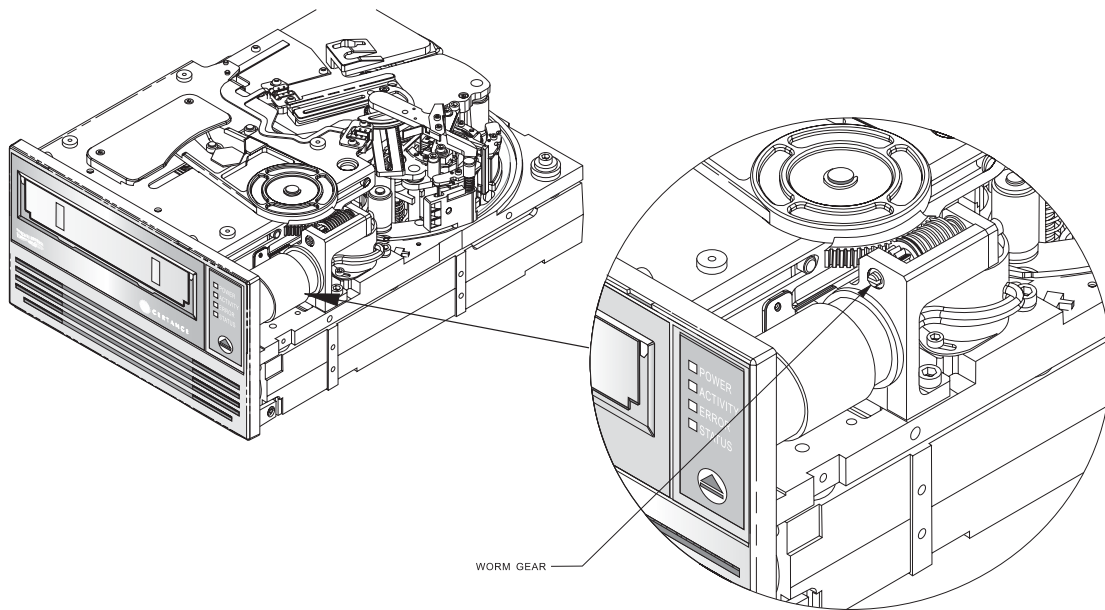

Figure 2. Worm Gear
2. Use a flat-blade screwdriver to turn the worm gear counter clockwise (to the left). Figure 2 on page 3 shows the location of the worm gear. This will gradually raise the cartridge elevator and cause the cartridge to slide partially out of the drive.